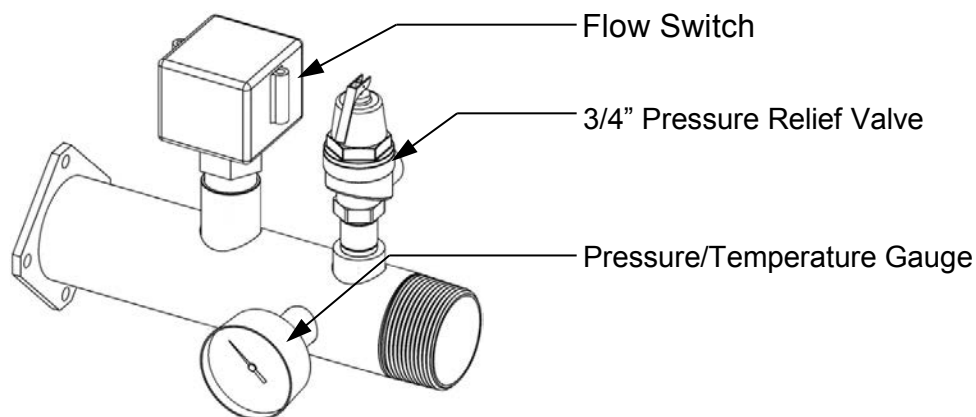

Figure 5: Manifold Assembly and Components for EXT 321 through EXT 1123/1100
The pressure relief valve and all other manifold components are shown in Figures 5 and 6.
Use Teflon tape or a suitable pipe joint compound for component and piping connections described in the following steps. Refer to Figure 5 and 6, above, for component identification.
3. Connect the following components to the tapped holes in the manifold assembly (Fig. 5 & 6):